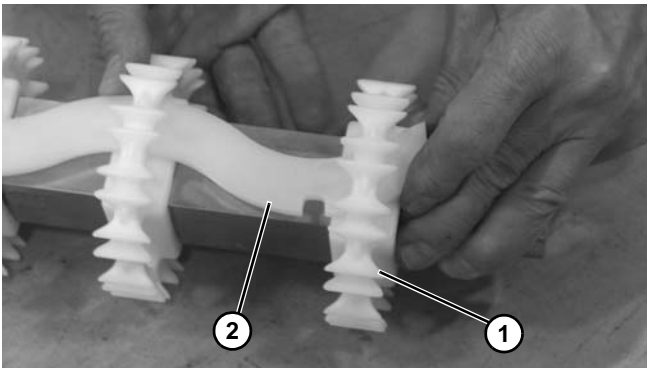

Figure 58
- Slide entire sprocket assembly slightly outward, and remove the first sprocket (**Figure 58, item 1**) off the drive spindle and alignment key (**Figure 58, item 2**).